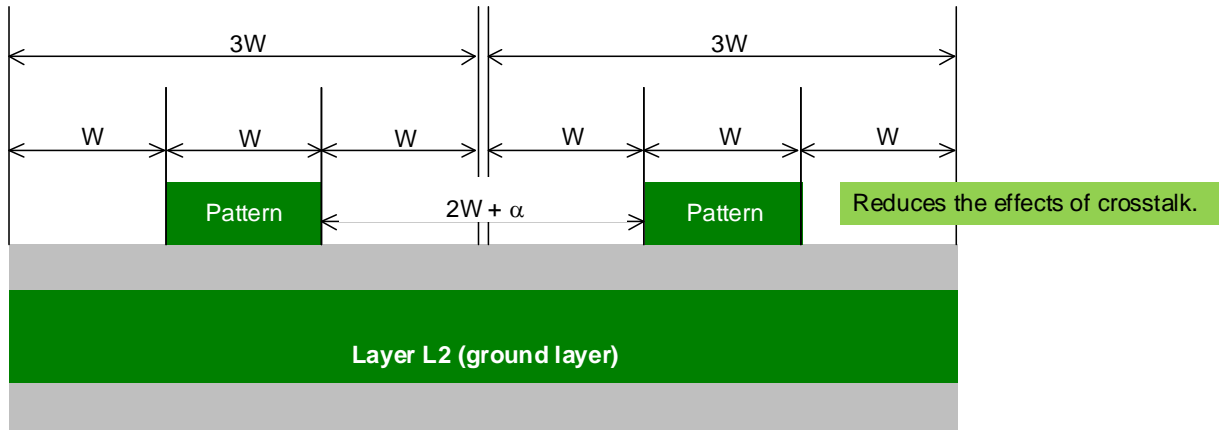

Figure 4 The 3W Rule
9. Design the distance between the SDRAM signal pattern and the MII/RMII signal pattern based on the 3W rule (i.e., a distance of at least $2W+\alpha$ for a line width of W). (See Figure 4.)